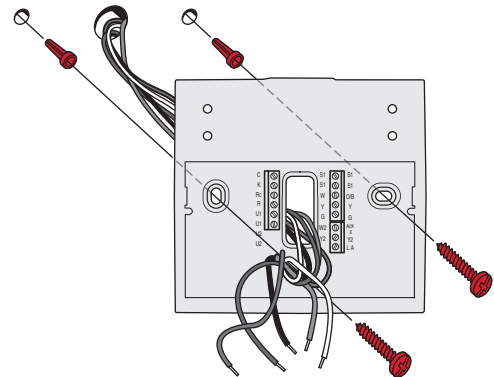

Fig. 16. Mounting wallplate.
5. Position the wallplate over the holes, pulling wires through the wiring opening. See Fig. 16.